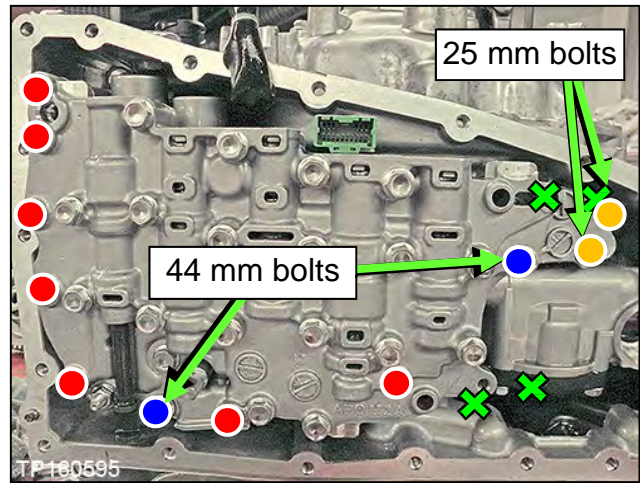
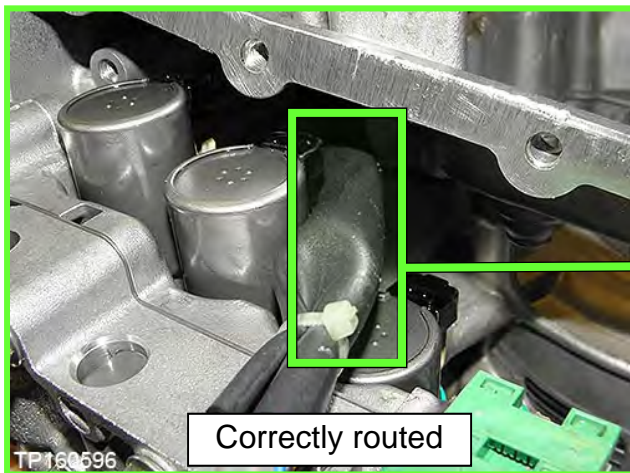
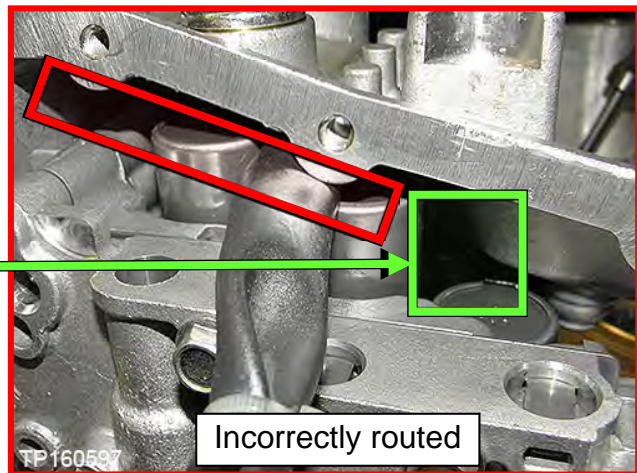

Figure 152
Figure 153
Figure 154
116. Install the Control Valve with eleven (11) mounting bolts (Figure 152).
- Leave four (4) ✘ bolt holes empty at this step.
- Make sure the wiring harness is not pinched (see Figure 153 and Figure 154 for correct routing).
**HINT:** The two (2) 25 mm bolts are installed **WITHOUT** the strainer bracket.